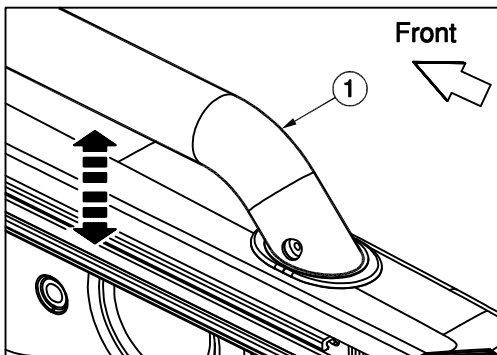

Fig. 7
8. Place Side Rail Tube over the Bases with the holes facing towards the center of the vehicle. Push down until the Bases are properly located. Lift the Side Rail Tube Straight up and off of the Bases. (See Fig. 7)